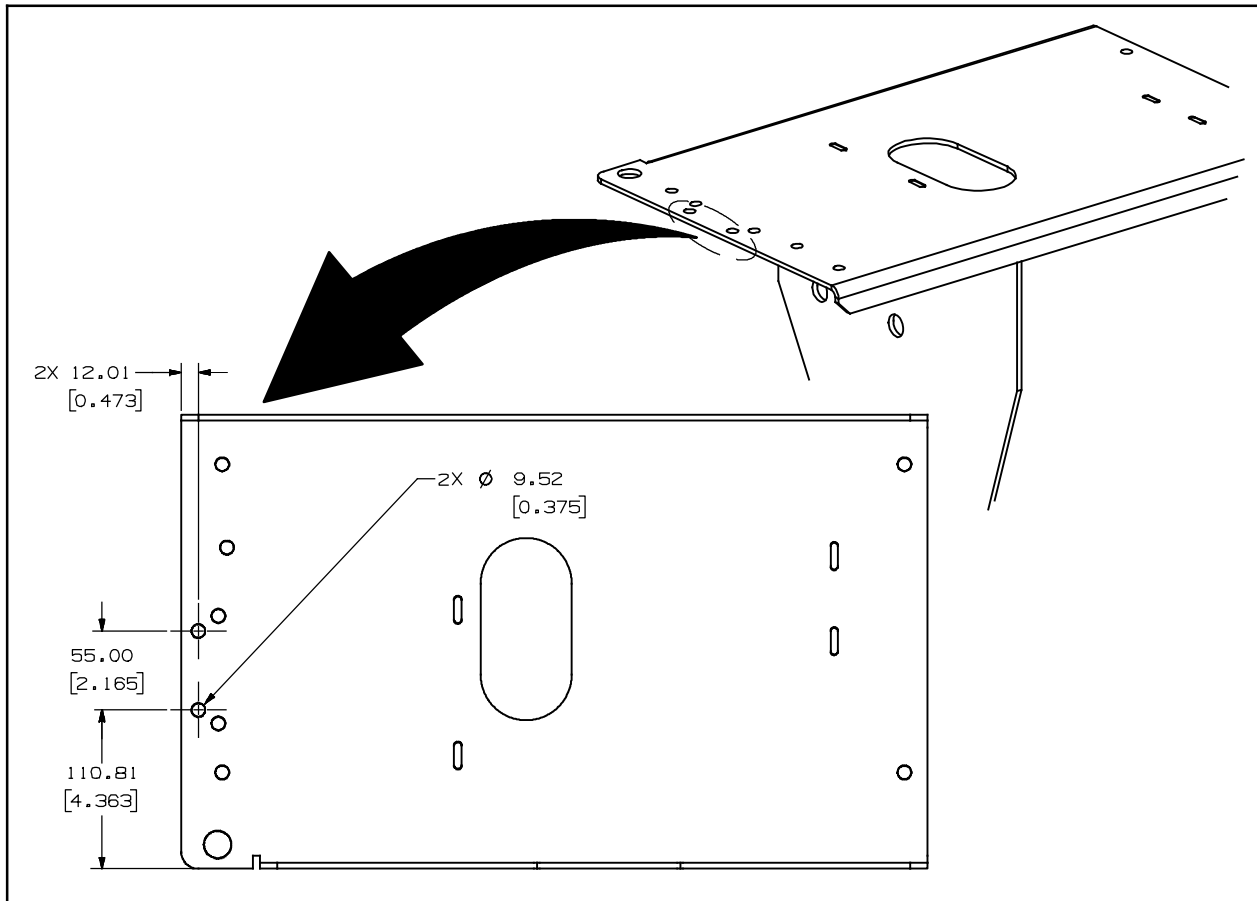

FIG. 42
55. Drill two 9.52 mm (0.375 in) holes into the hydraulic reservoir bracket. (Fig. 42)